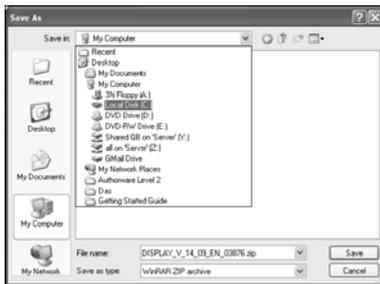

Figure 3-19
8. On the left-hand side, click My Computer. Then from the Save in: pull-down at the top, select Local Disk(C:) (see figure 3-19, and most likely your local drive is the C: drive).